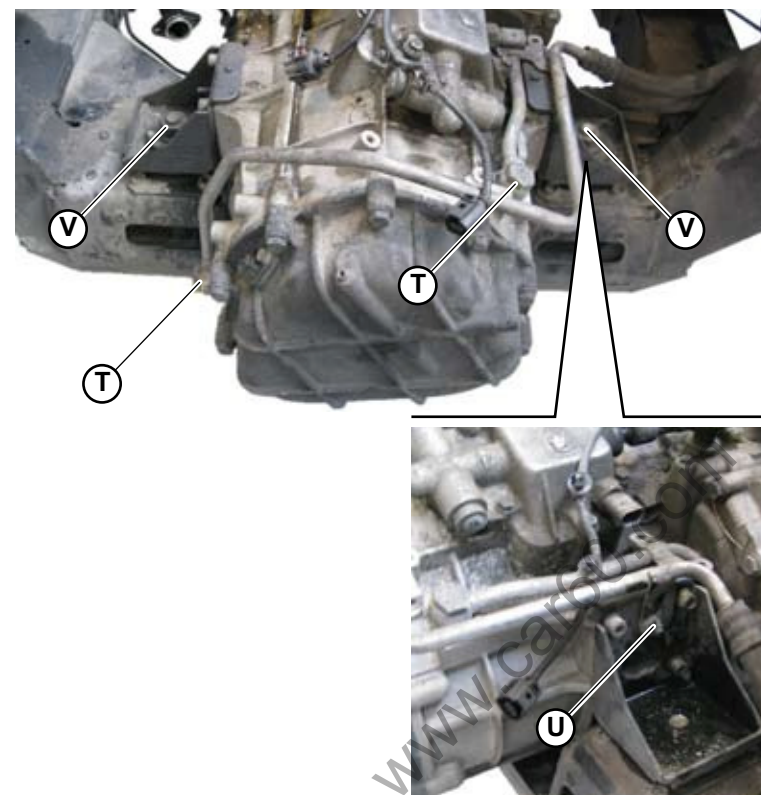

Fig.10
16. Connect the oil circuit delivery and return pipes (**T-Fig.10**) to the gearbox.
17. Tighten the screw (**U-Fig.10**) securing the mounting bracket of the gearbox oil circuit pipes.
18. Tighten the nut (**V-Fig.10**) on both sides securing the gearbox to the chassis.